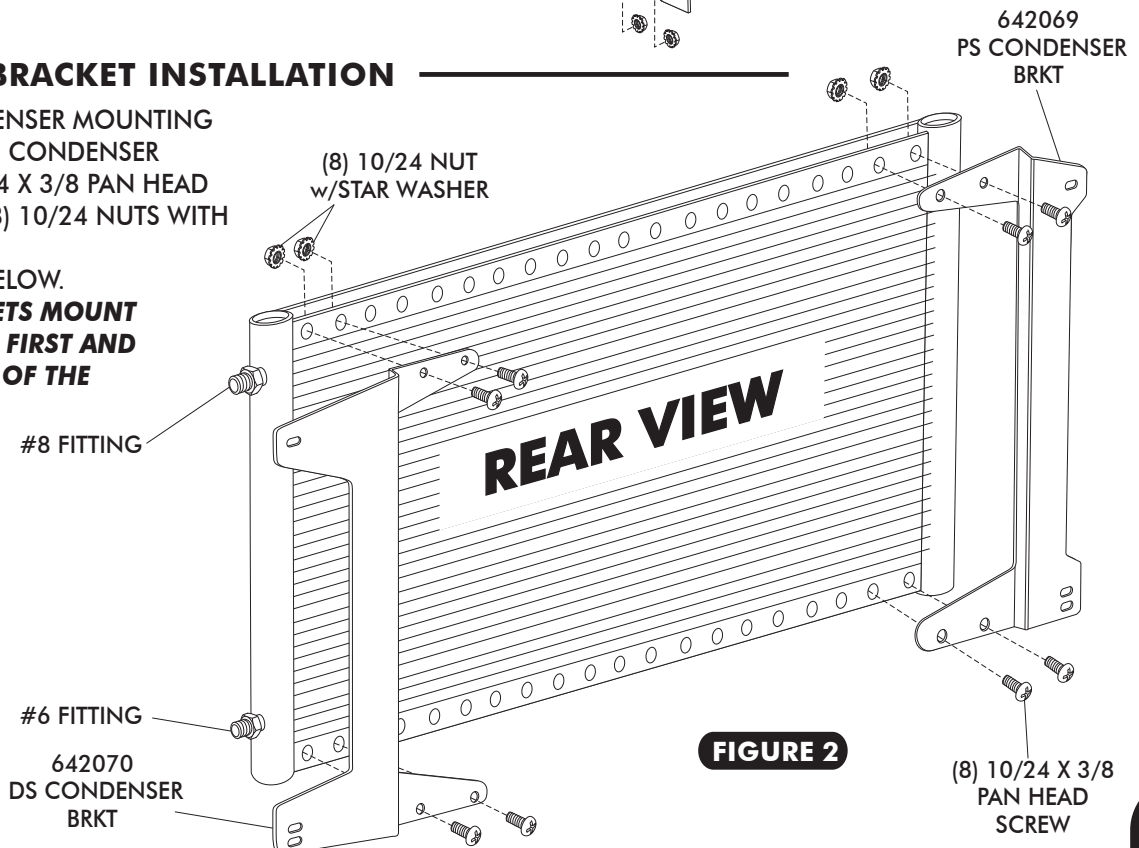

FIGURE 2
- INSTALL CONDENSER MOUNTING BRACKET ONTO CONDENSER USING (8) 10/24 X 3/8 PAN HEAD SCREWS AND (8) 10/24 NUTS WITH STAR WASHERS. SEE FIGURE 2 BELOW. **NOTE: BRACKETS MOUNT THROUGH THE FIRST AND SECOND HOLE OF THE CONDENSER.**